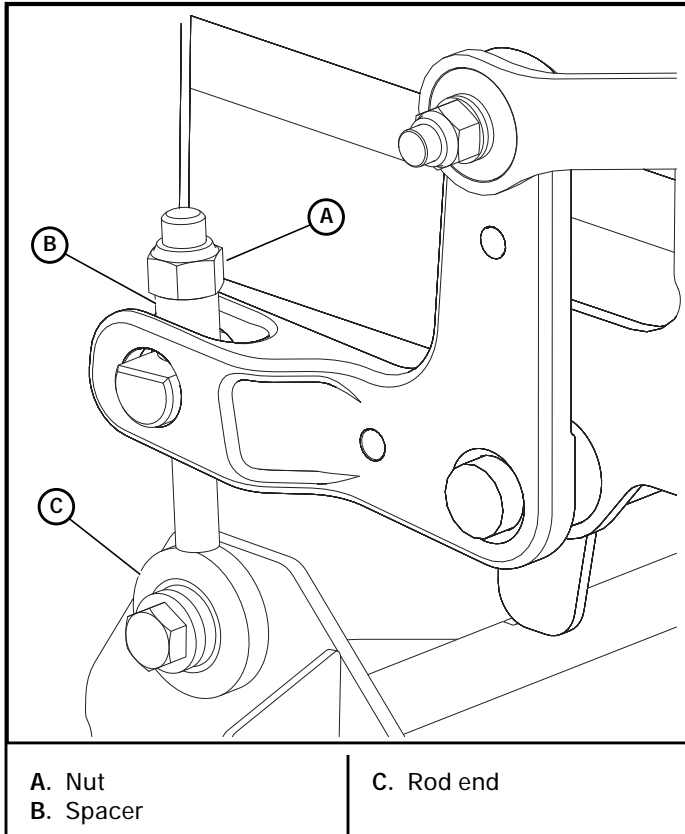

Figure 8-3
- Adjust the nut on each deck level rod end over the three blocks so that the deck is sitting on the block and the nut is on the deck level spacer. Figure 8-3